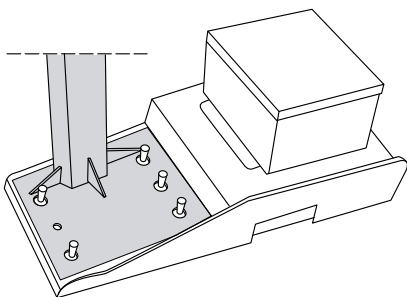

Figure 3
2. 2 people may now stand the tower up. Position the tower so the film carriage faces the turntable. Align the holes in the base of the tower with the 5 threaded studs in the frame. (See Figure 3)